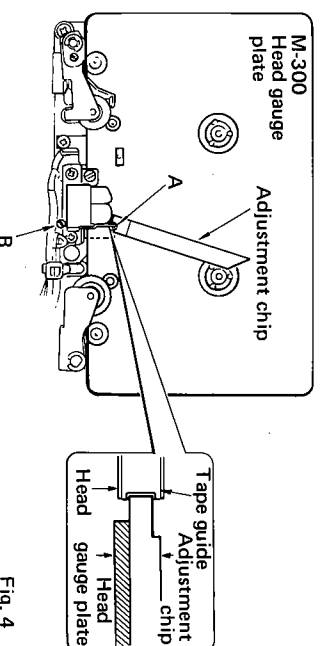

Fig. 4
- 2) With the unit in the PLAY state, apply the adjustment chip to the head gauge plate and make an adjustment with the adjusting screws A and B in the below Fig. 4 so that the chip doesn't contact the tape guide.